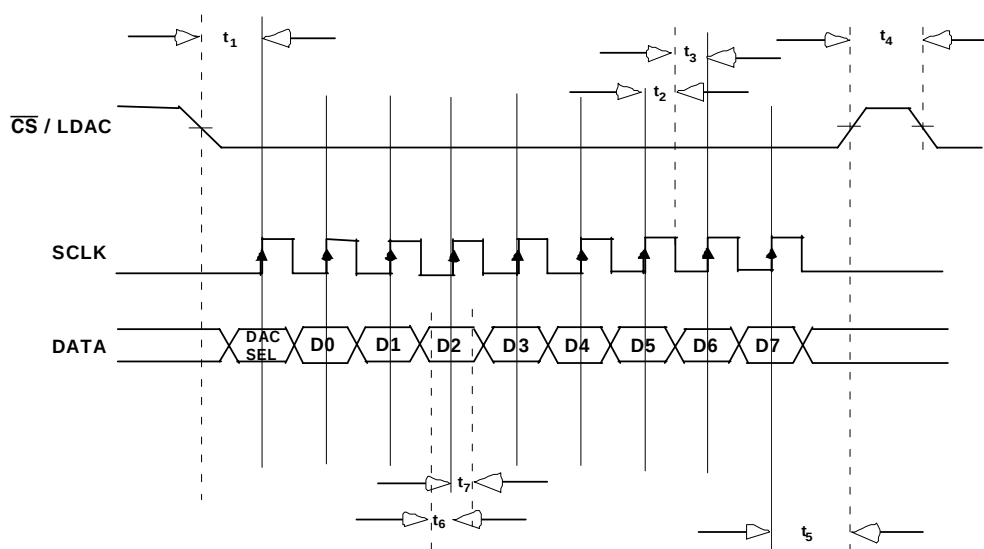

Figure 4. Serial Interface Waveforms
2. See Timing Diagram in Figure 4.
This function is also shown in the waveforms in Figure 4 below. A falling edge on the CS/LDAC input initiates the data read into the shift register. The first bit of the datastream is the DAC Select Bit (DAC_SEL) which determines which internal DAC the data will be written to. A '1' selects DAC 1 which sets the Amplitude of the output and a '0' selects DAC 2 which sets the Centre Voltage of the output. The individual data bits are then read in one by one on the DATA line. After the DAC_SEL bit and the 8 data bits have been read there is a pause to ensure the shift register outputs are stable. Then a rising edge on the CS/LDAC input loads the 8 bits on the shift register outputs into the relevant DAC (and the DAC outputs will change accordingly). Note that if CS/LDAC goes high before all 8 data bits are read in then incorrect data will be loaded into the DACs. All bits on the DATA line are read in on each rising edge of the SCLK signal.